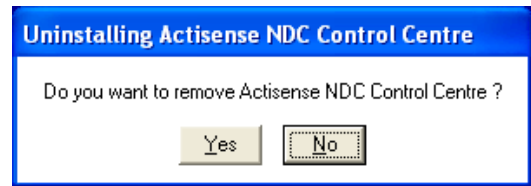
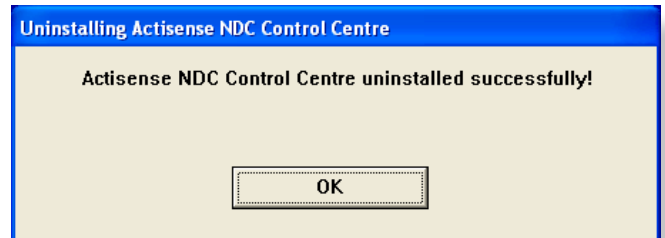

Figure 9 – Uninstall Confirmation
Figure 10 – Uninstall Complete
3. Once the uninstall operation has been requested, the confirmation box ("Figure 9 – Uninstall Confirmation") will be displayed. Answer 'Yes' and the uninstall operation will be performed automatically. After successfully uninstalling the **Actisense** PC software, the uninstall completion box will appear ("Figure 10 – Uninstall Complete").